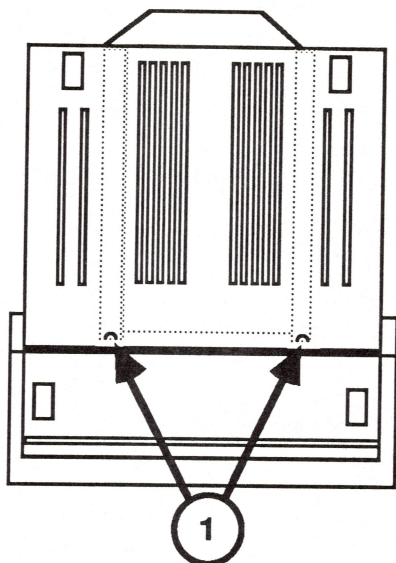

FIGURE 1
4. Remove the two screws (Figure 1, #1) from the bottom of the monitor.